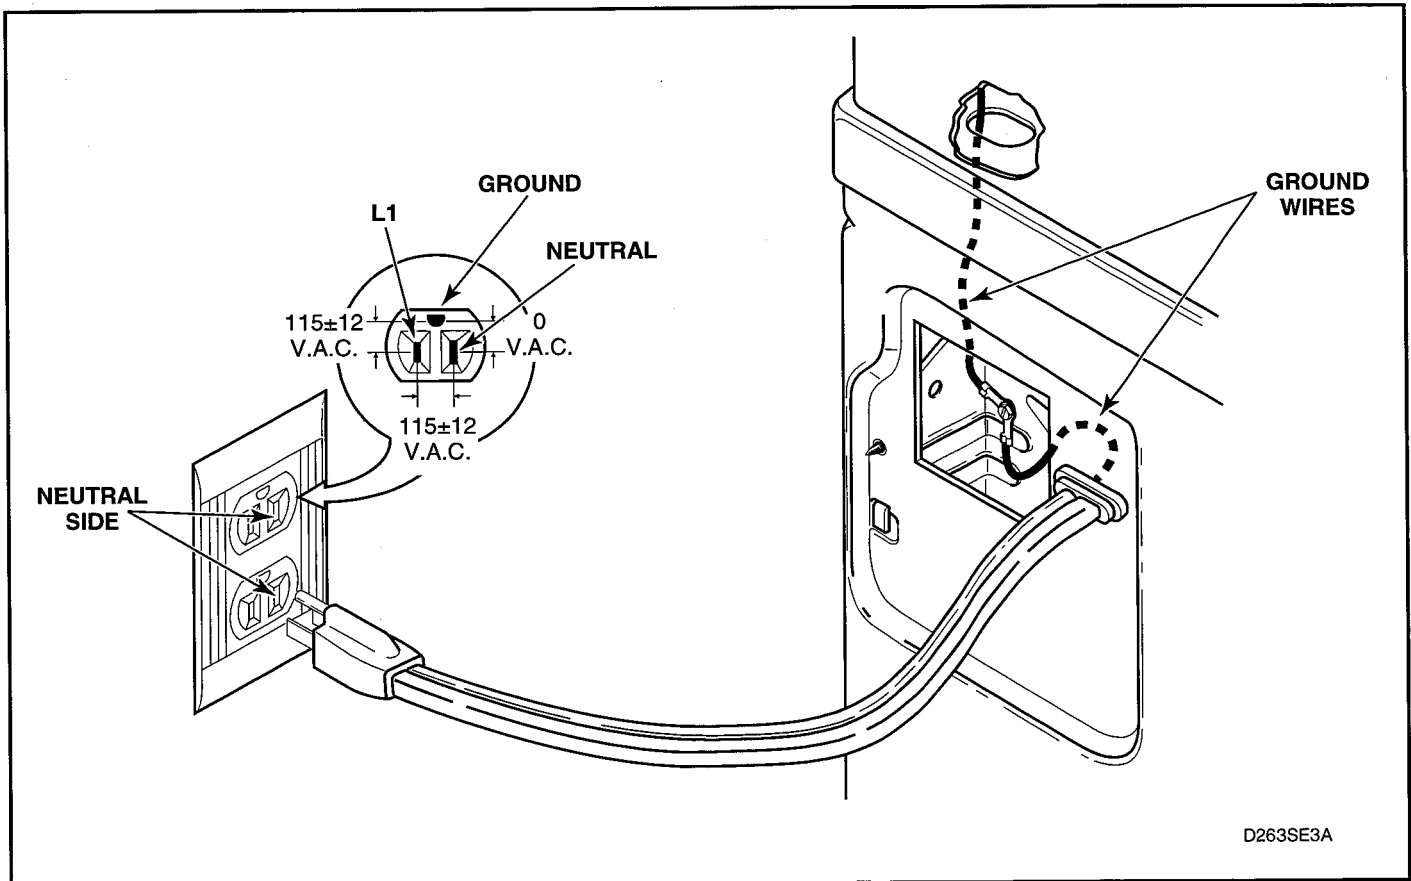

Figure 5-31
3. Remove screw holding power cord ground wire to rear bulkhead. See figure 5-31.